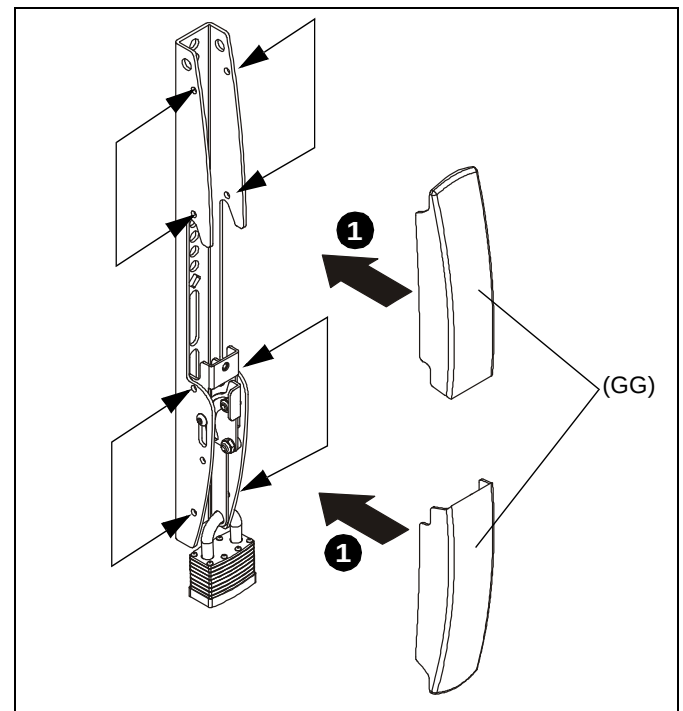

Figure 14
- Install four interface bracket covers (GG) over the top and bottom of both interface brackets. (See Figure 14)
NOTE: Be sure to line up tabs inside the bracket covers with holes on sides of interface brackets. (See Figure 14)